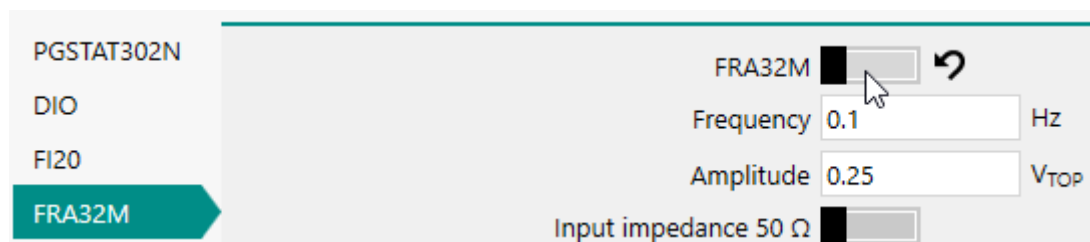

Figure 76 – Switching the output of the FRA module off
- **Modulation off:** to switch off the modulation generated by the FRA module, if applicable, set the FRA2 or FRA32M output off using the provided switch (see Figure 76).